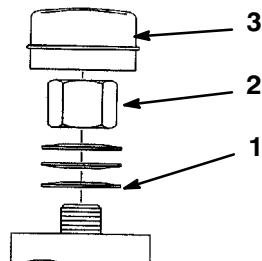

Figure 39
2. Remove dust cap from castor and tighten lock nut (Fig. 39).
3. Tighten until spring washers are flat and then back off a 1/4 turn to properly set the pre-load on the bearings (Fig. 39).
Important Make sure spring washers are installed correctly as shown in figure 39.